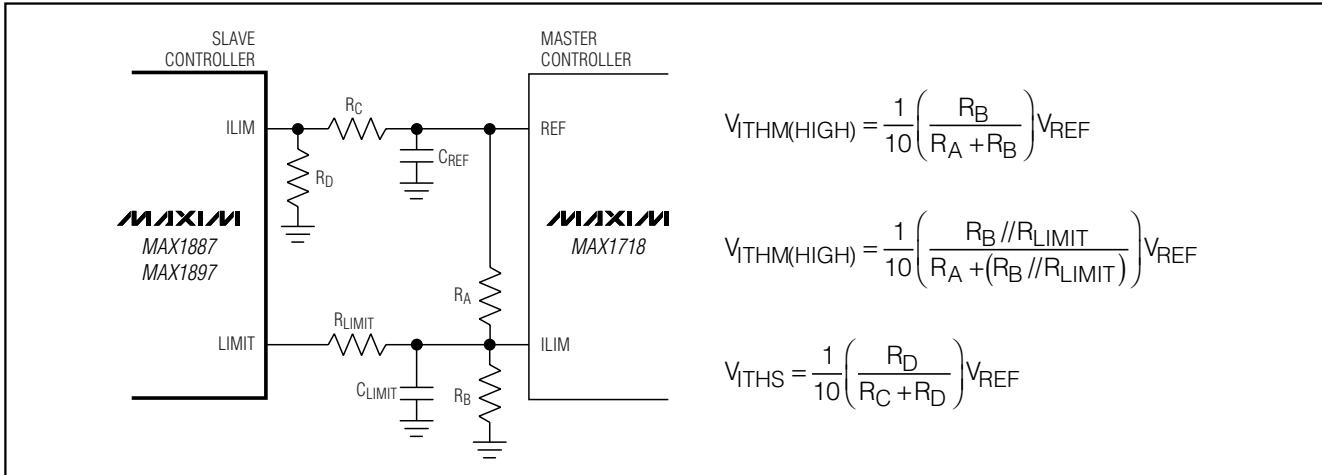

Figure 5. Setting the Adjustable Current Limits
where  $V_{ITHM}$ , the master's current-limit threshold, is typically 1/10th the voltage seen at the master's ILIM input ( $V_{ITHM} = 0.1 \times V_{ILIM(MASTER)}$ , see the master controller's data sheet). Connect a resistive voltage-divider from the master controller's internal reference to GND, with the master's ILIM input connected to the center tap (Figure 5). Use 1% tolerance resistors in the divider with 10µA to 20µA DC bias current to prevent significant errors due to the ILIM pin's input current:
where  $V_{ITHS}$ , the slave's current-limit threshold, is precisely one-tenth the voltage seen at the slave's ILIM input ( $V_{ITHS} = 0.1 \times V_{ILIM(SLAVE)}$ ). Connect a second resistive voltage-divider from the master controller's internal reference to GND, with the slave's ILIM input connected to the center tap (Figure 5). The external adjustment range of 400mV to 1.5V corresponds to a
Now select the resistive-divider values ( $R_A$  and  $R_B$  in Figure 5) to set the appropriate voltage at the master's ILIM input:
Select the resistive-divider values ( $R_C$  and  $R_D$  in Figure 5) to set the appropriate voltage at the slave's ILIM input:
- 4) Determine  $R_{LIMIT}$  (Figure 5) from the above equation: